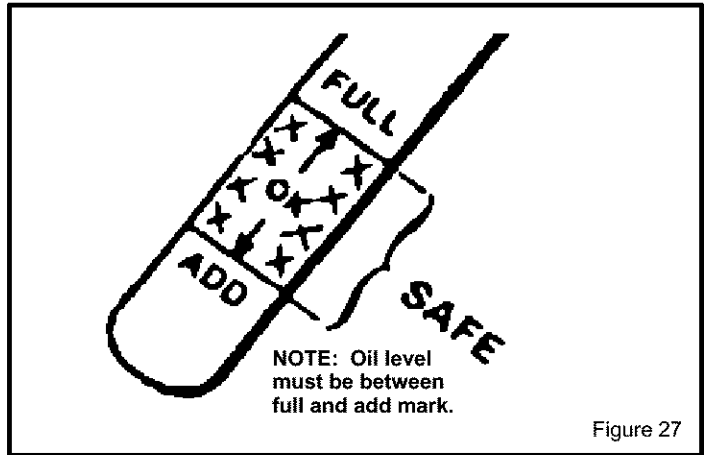

Figure 27
**Check Crankcase Oil Level** before starting engine and after each 5 hours of continuous use (see Figure 27). Add proper motor oil as required.
**Change Oil** every 25 hours of operation or at least once a year, even if the snow blower is not used for twenty-five hours. Use a clean, high quality detergent oil. Fill the crank case to FULL line on dipstick (see Figure 27). Be sure original container is marked: A.P.I. service "SF", "SE", "SD" or "SC". Do not use SAE10W40 oil (as it may not provide proper lubrication). See Chart for oil recommendations.